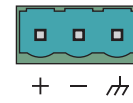

Figure 2. Pinout of the terminal block input.
- The detachable terminal block (Figure 2)